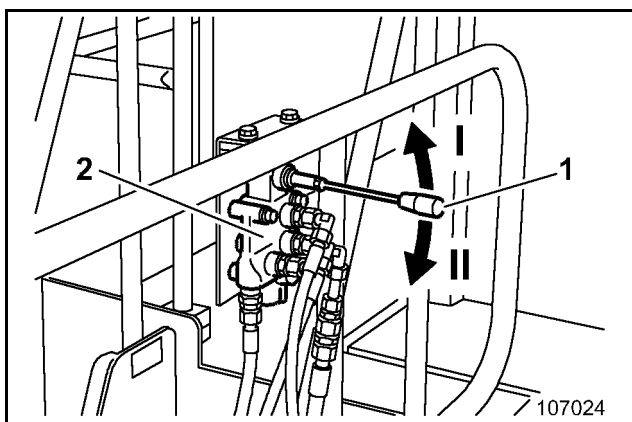

Fig. 2-13:
- Pull lever (1, , Fig. 2-13:) on control valve (2) upwards to position " I ".
- Push lever (1, Fig. 2-13:) on control valve (2) downwards to position " II ".